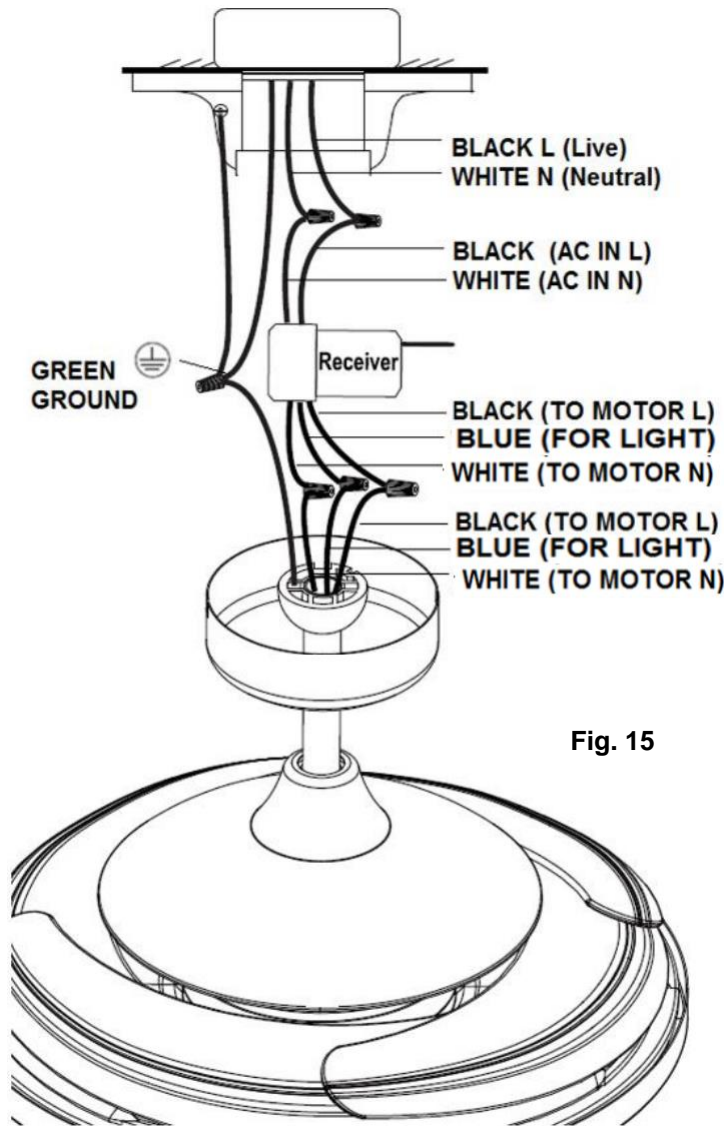

Fig. 15
1. Connect the household live supply wire (black) to receiver input wire (black, AC IN L) as shown in **Fig. 15**.